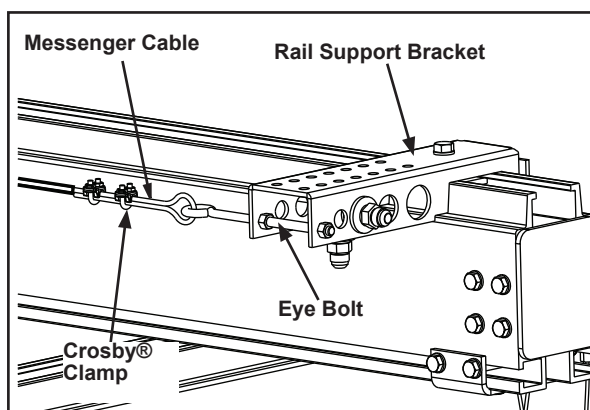
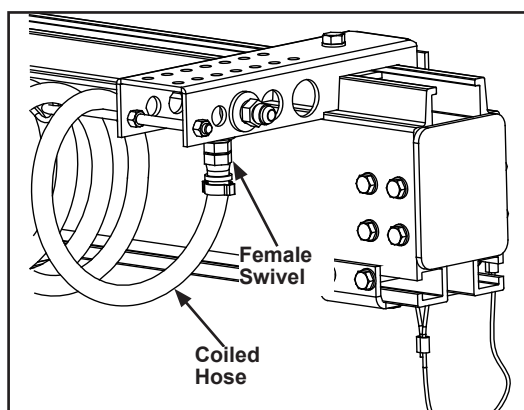

Figure 3-118
Figure 3-119
- Step 4. Tighten M12 x 50 mm HHCS to secure rail support bracket to rail. **Tighten until bolts are snug + ¼ turn.** Do not over tighten. Over tightening could cause bracket to bend. See Figure 3-118 and Figure 3-119.
- Step 9. Thread eye-bolt and messenger cable through hose coils. Continue threading messenger cable through coils to other end of rail support bracket assembly. See Figure 3-118.